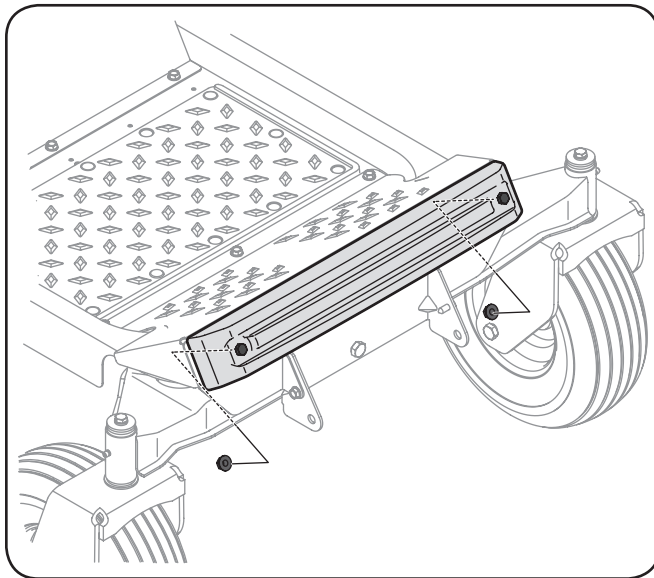

Figure 4-25
2. Position the weight bar onto the foot rest and secure it in place with two 3/8" flange nuts (712-04065) from the same hardware pack. See Figure 4-25.